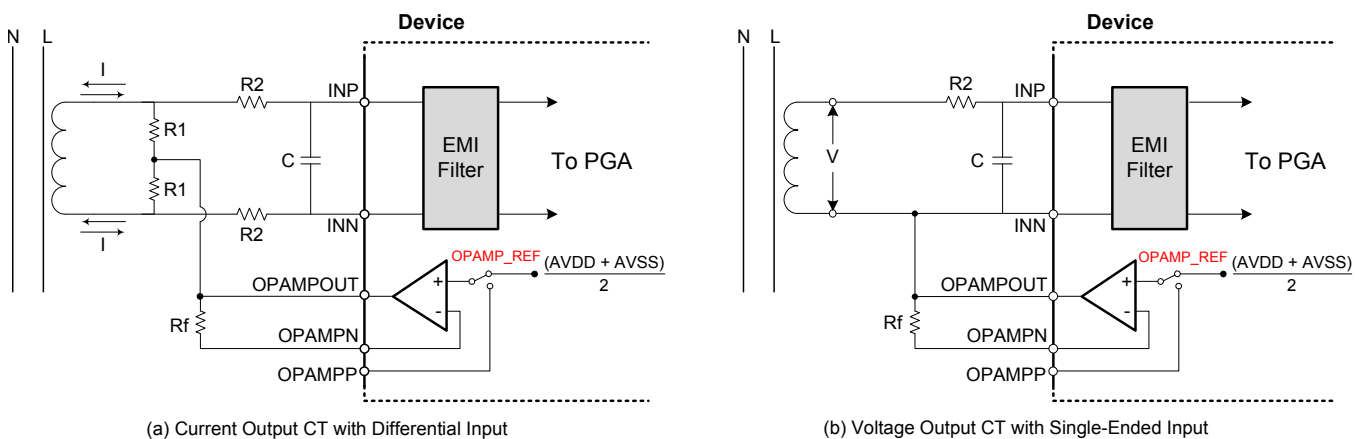

Figure 41. Simplified Current-Sensing Connections
Figure 41 shows a simplified diagram of typical configurations used for current sensing with a Rogowski coil, current transformer (CT), or an air coil that outputs a current or voltage. In the case of current-output transformers, the burden resistors (R_1) are used for current-to-voltage conversion. The burden resistor output is connected to the ADS130E08 INP and INN inputs through an antialiasing RC filter for current sensing. In the case of voltage-output transformers (such as certain types of Rogowski coils), the transformer output terminals are directly connected to the ADS130E08 INP and INN inputs through an antialiasing RC filter for current sensing. The common-mode bias voltage ($AVDD + AVSS$) / 2, can be obtained from the ADS130E08 by either configuring the internal op amp in a unity-gain configuration using the R_F resistor and setting bit 3 of CONFIG3: Configuration Register 3, or it can be generated externally with a simple resistor divider network between the positive and negative supplies.